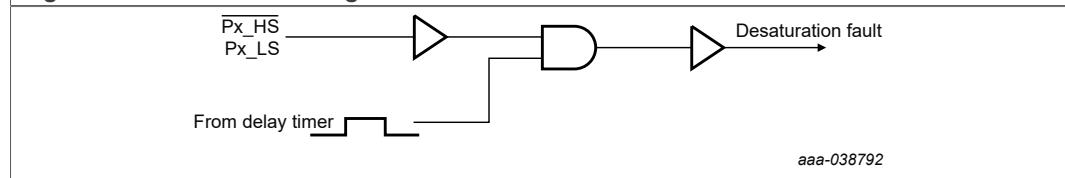

Figure 4. Desaturation blanking and filtering detail
- [16] Desaturation is measured as the voltage drop below V_{SUP} , thus the threshold is compared to the drain-source voltage of the external high-side FET. See Figure 4.